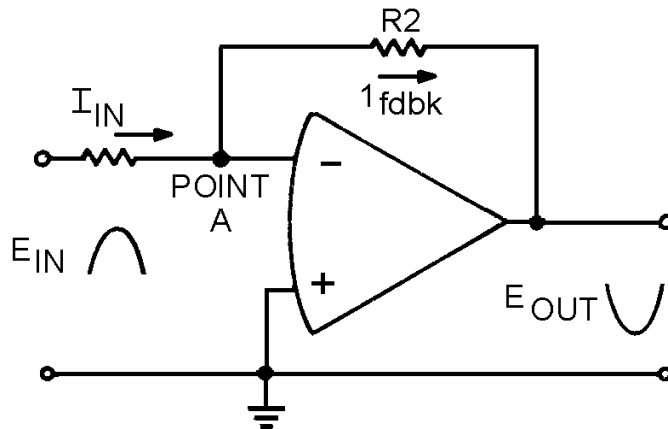

Figure 3-15.—Current flow in the operational circuit.
Given these conditions, the characteristics of this circuit are determined almost entirely by the values of R1 and R2. Figure 3-15 should help show how the values of R1 and R2 determine the circuit characteristics.
- Q-24. *In a circuit such as that shown in figure 3-15, if R1 has a value of 100 ohms and R2 has a value of 1 kilohm and the input signal is at a value of + 5 millivolts, what is the value of the output signal?*